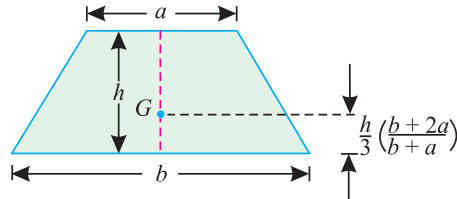

Fig. 6.3. Trapezium
4. The centre of gravity of a trapezium with parallel sides  $a$  and  $b$  is at a distance of  $\frac{h}{3} \times \left( \frac{b + 2a}{b + a} \right)$  measured from the side  $b$  as shown in Fig. 6.3.